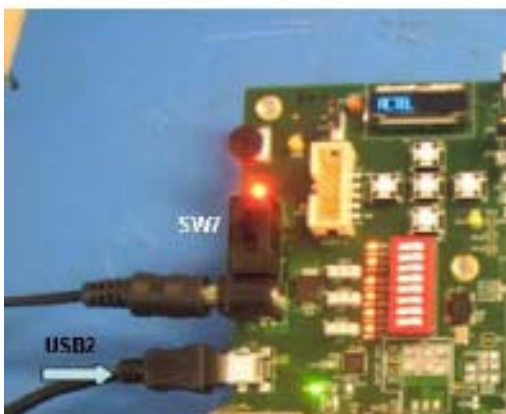

Figure 2-9 • Connecting the USB and 9 V Power Supplies on the M1AFS-ADV-DEV-KIT Board
1. Connect one end of the USB mini cable to USB port J2 on the M1AFS-ADV-DEV-KIT board (labeled USB2 in Figure 2-9) and connect the other end to the USB port on your PC.
2. Connect one end of a 9 V power supply to power input J3 on the M1AFS-ADV-DEV-KIT board (Figure 2-9) and plug the supply into an electrical outlet.